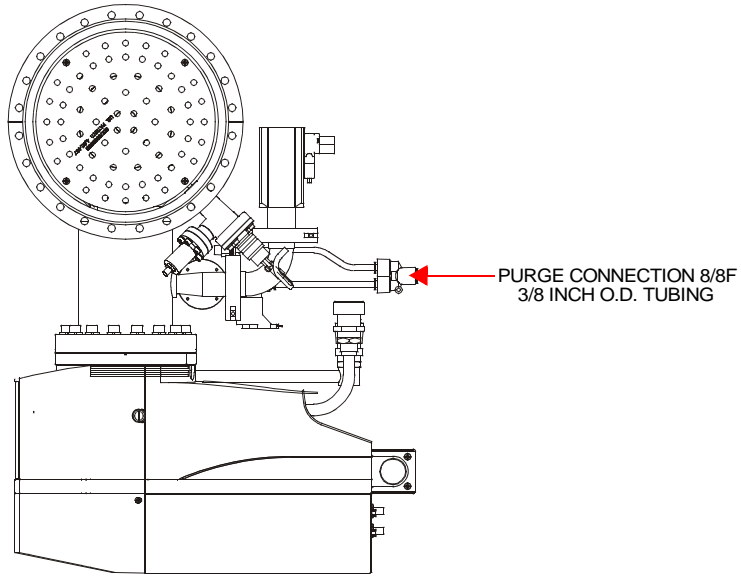

Figure 2-3: Nitrogen Connection
1. Connect tubing to the nitrogen purge connection as shown in Figure 2-3.